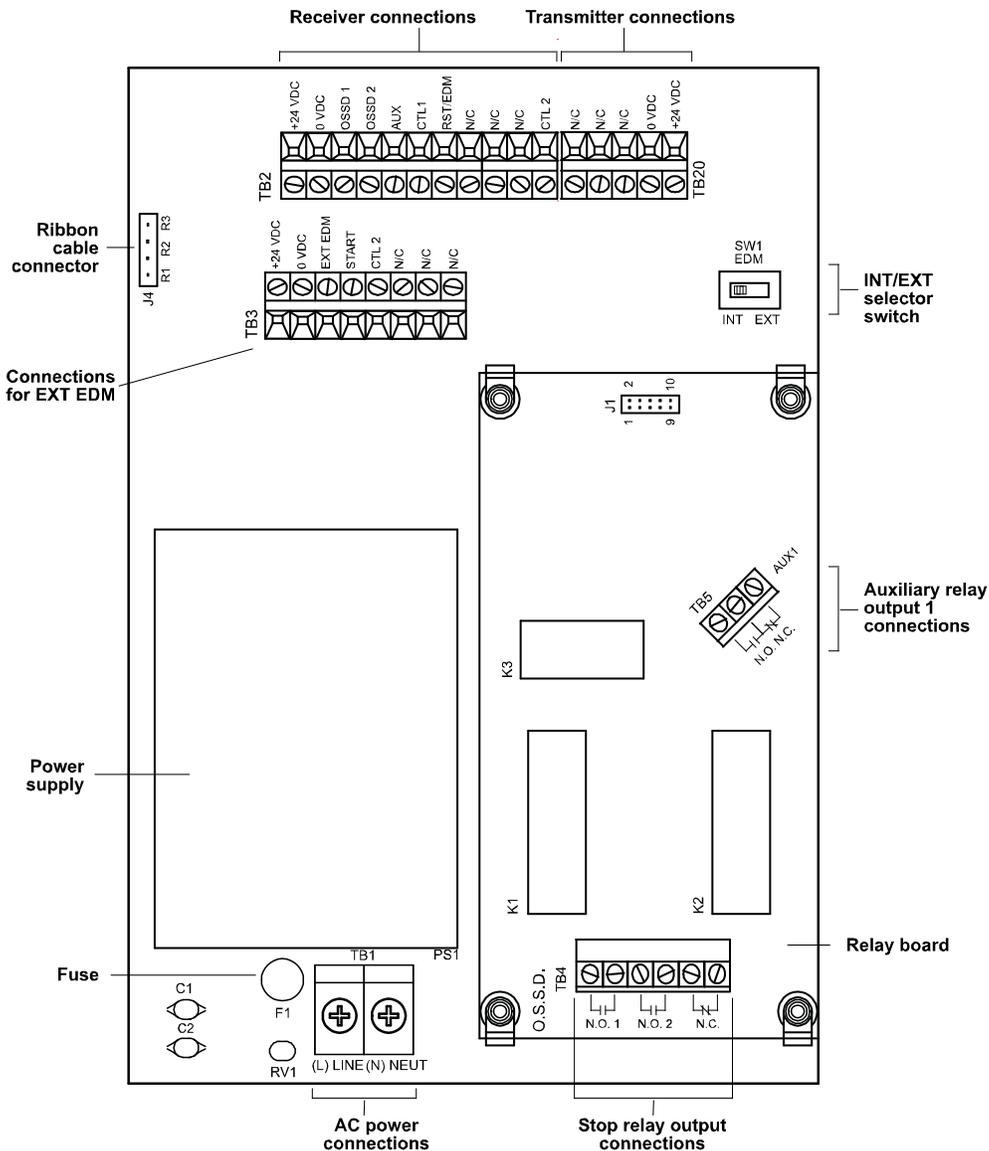

Figure 2-27. Shadow 9 Control Main Board: Location of Important Components
To wire a pair of heads, transmitter and receiver, to the optional Shadow 9 control, perform the following steps, referring to *Figure 2-27*, page 70, and Figure 1 at the end of the manual for wiring connections:
4. Locate terminal blocks TB2 (receiver) and TB20 (transmitter) on the Shadow 9 control main board (see *Figure 2-27*, page 70).
1. Open the door of the control and locate terminal block TB1 on the Shadow 9 control main board in the lower left corner of the enclosure (see *Figure 2-27*, page 70). This is the connector for AC power.
5. Connect the black wire to the “L” terminal on TB1, the white (or red) wire to the “N” terminal, as shown in *Figure 2-27*, page 70, and in *Figure 2* at the end of the manual.
6. Connect the green (or green-and-yellow) electric service ground wire to the set screw terminal on the bottom of the enclosure, as shown in *Figure 2-27*, page 70.